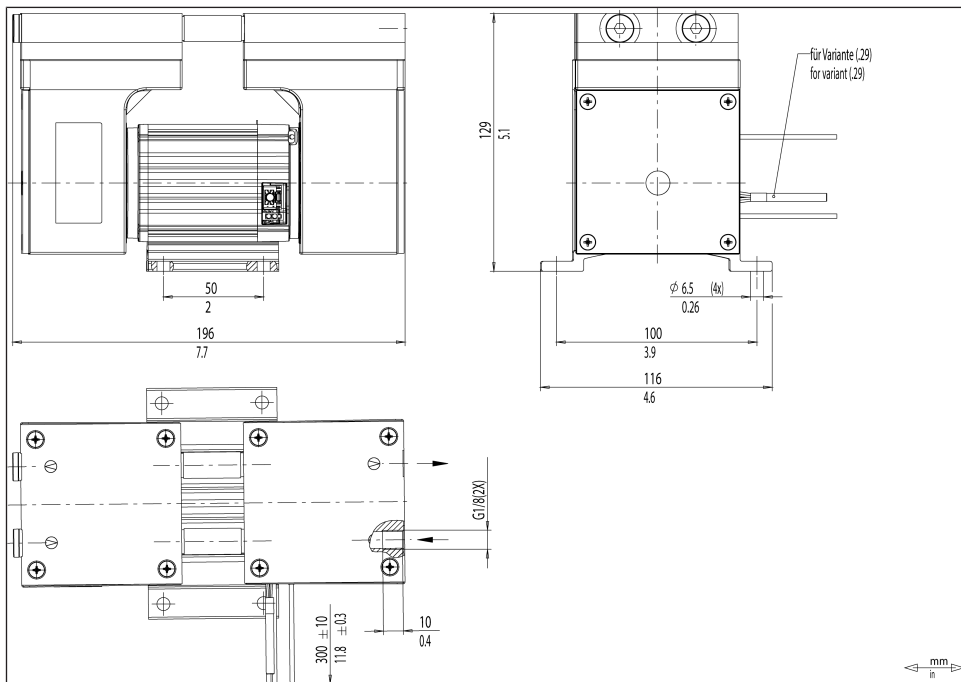

Fig. 5: Mounting dimensions N938.1.2\_DC-B
-N938.1.2ANDC-B	See Fig. 5, Chapter 6.1 Installing the pump [▶ 23]